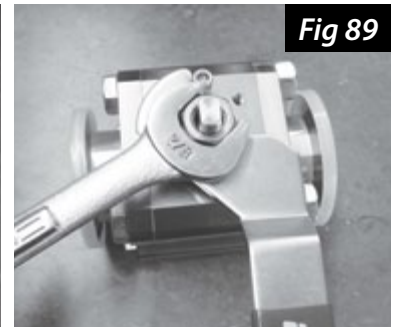

Fig 89
16. Thread the nut onto the valve stem and tighten with the 7/8" wrench until the handle is secure (Fig 89).
19. Thread the nut onto the valve stem and tighten with the 7/8" wrench until the handle is secure (Fig 89).